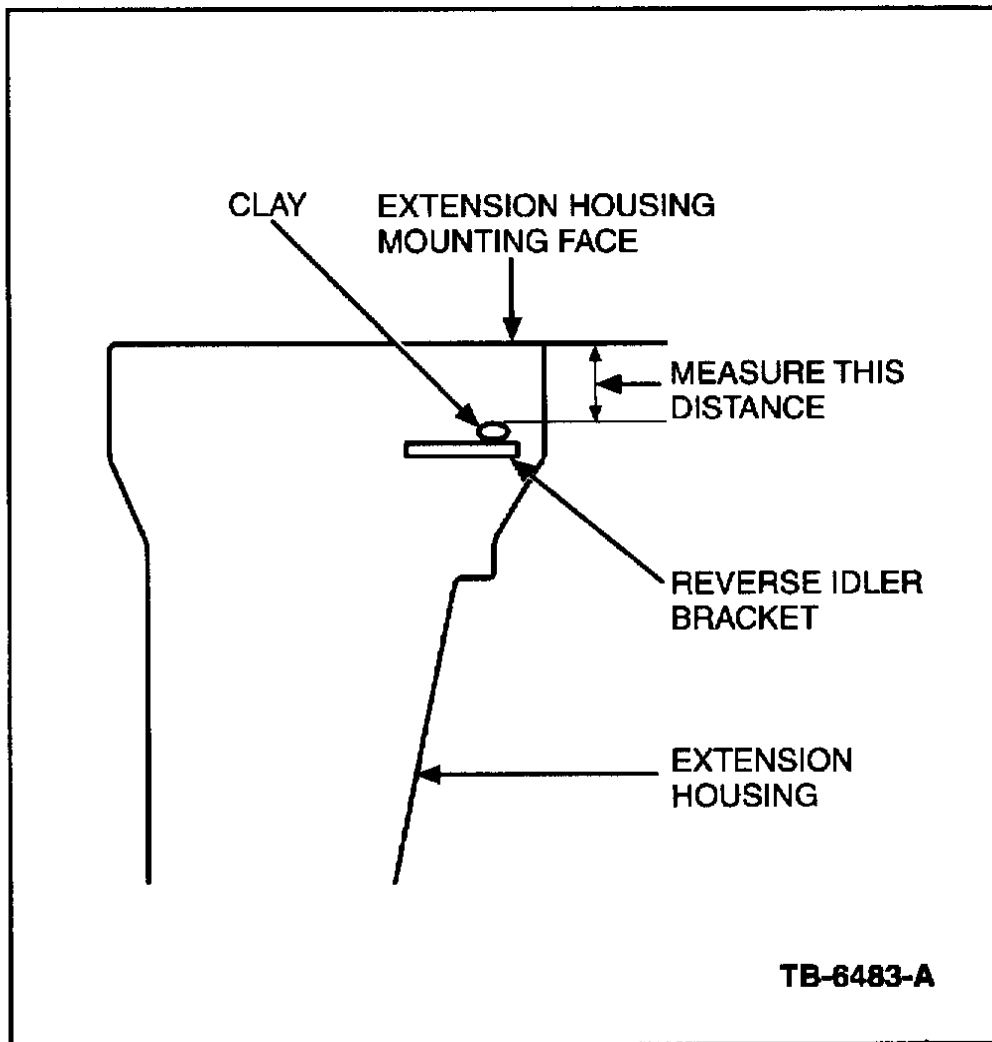

Figure 1
1. While viewing the extension housing from the front, place a small amount of standard modeling clay on the reverse idler bracket (7723) near the 5th/reverse shift rail support hole (near the exterior wall of the housing Figure 1).
3. Re-install the extension housing (7A039), offset lever (7F018), spring (7E172), ball (7234) and roll pin (35749-S15). Attach securely with only two (2) bolts.
6. Using an appropriate depth gage, carefully measure from the case mounting face of the extension housing to the face of the plain washer, which should be stuck in the modeling clay. Take three (3) readings and calculate the